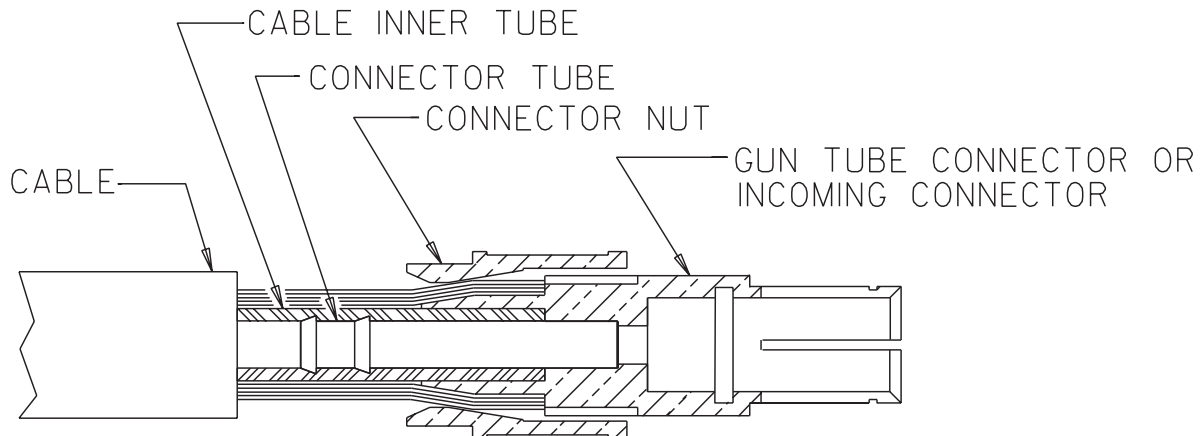

Figure E.3
Keeping the copper strands against the shoulder, pull the connector nut over the copper strands, engage the gun tube connector threads, and tighten in place. (See Figure E.3).
- f) Check that the cable boot, cable handle and strain relief are on the cable. Slip the connector nut over the copper strands with the threaded end out. Assemble incoming connector to cable by forcing the steel tube of the connector into the inside diameter of the cable inner tube until the copper strands are butted against the incoming connector shoulder. Keeping the copper strands against the shoulder, pull the connector nut over the copper strands, engage the incoming connector threads, and tighten in place. (See Figure E.3).